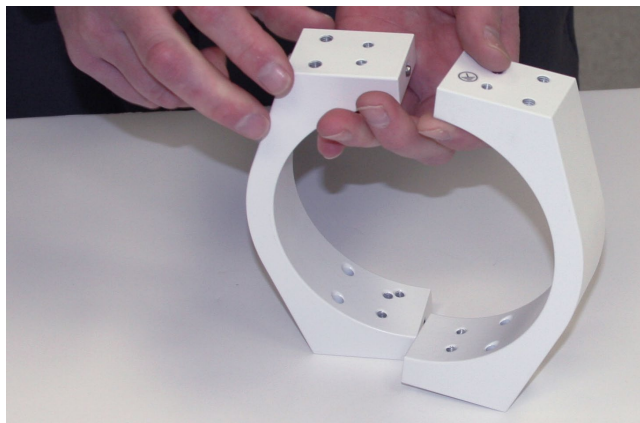

Figure 1. Separate the Clamp
1. Use a 5mm Allen wrench to remove the two screws from the VST (Vertical Support Tube) clamp, then separate the two halves (Figure 1). One is located on each side.